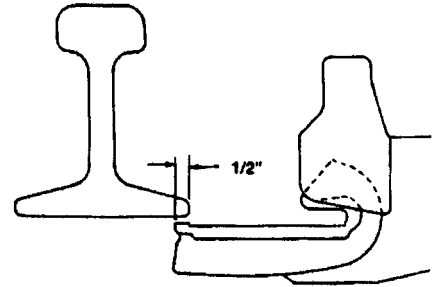

Figure 54A
2. With the machine in **MANUAL Mode**, lower Clamp Arm and move the Jaw Arm in until the anchor extends 1/2-inch under the rail base as shown in Figure 54A.